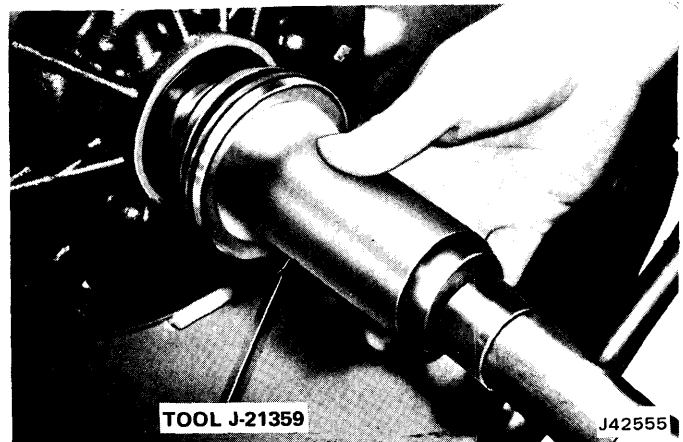

Fig. 7-135 Installing Oil Pump Seal
(1) Fabricate guide pins by grinding heads from two spare 5/16-18 valve body bolts.
(2) Install guide pins in pump mounting bolt holes of transmission case.
(3) Position oil pump gasket on pump face of transmission case. Use petroleum jelly to retain gasket.
(4) Install pump assembly and all but one pump attaching bolt and washer. Omit bolt and washer from either 5 or 10 o'clock position.
(5) Tighten installed pump attaching bolts to 22 foot-pounds torque.
(6) Install oil pump seal. Use nonhardening sealer on outside of seal and install seal using Tool J-21359 (fig. 7-135).